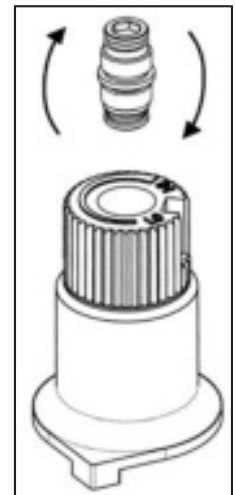

Figure 22: Flip valve screw.
- e) Flip the screw (refer to Figure 22).